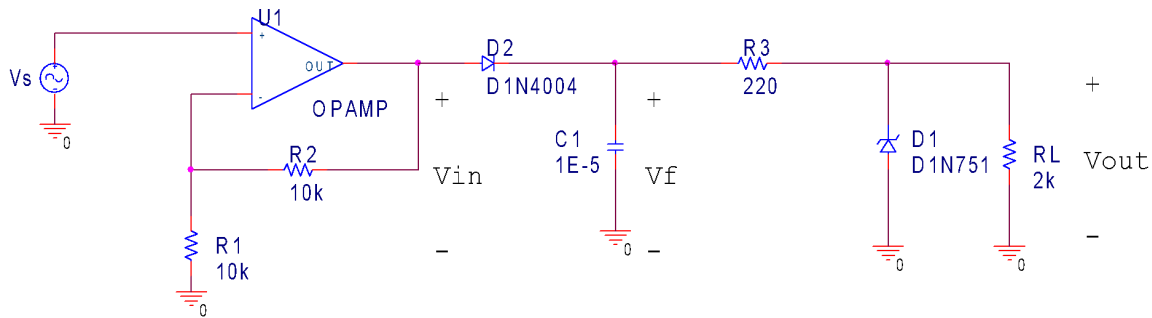

Figure 11: Voltage regulator circuit
- Construct the circuit shown below (Figure 11) without the Zener diode. Use a 5 V amplitude sinusoidal source at 1 kHz. Measure the input voltage V_{in} , filtered voltage V_{Filter} , and output voltage V_{out} .